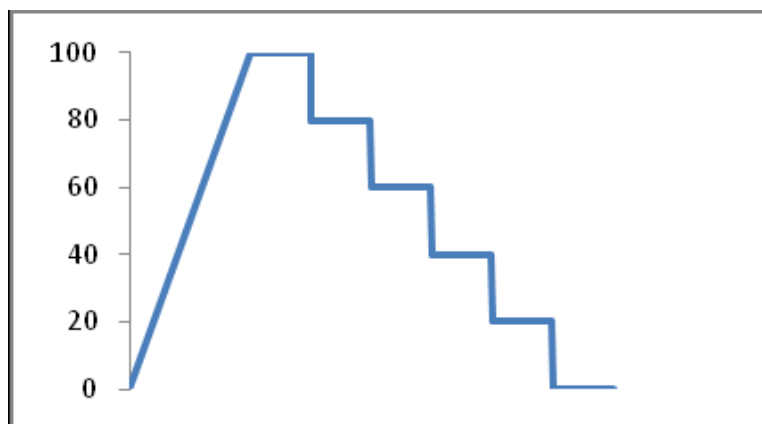

Figure 2-12: Gradient diagram
- 2) Link the workstation to gradient system and detector, set gradient parameters according to figure 2-12. Mobile phase A is pure water, mobile phase B is 0.2% (V/V) acetone water and the total flow rate is 1.0 mL/min.